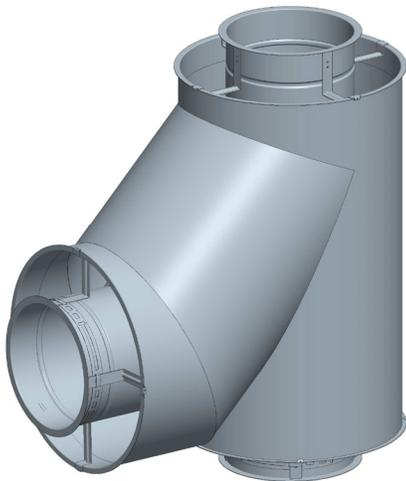

Figure 36 Lateral Tee (BT)
The Lateral Tee (BT) is a 45° Tee with a 45° Elbow integrated in it. The installation details are the same as a 90° Tee. See **Figure 36**